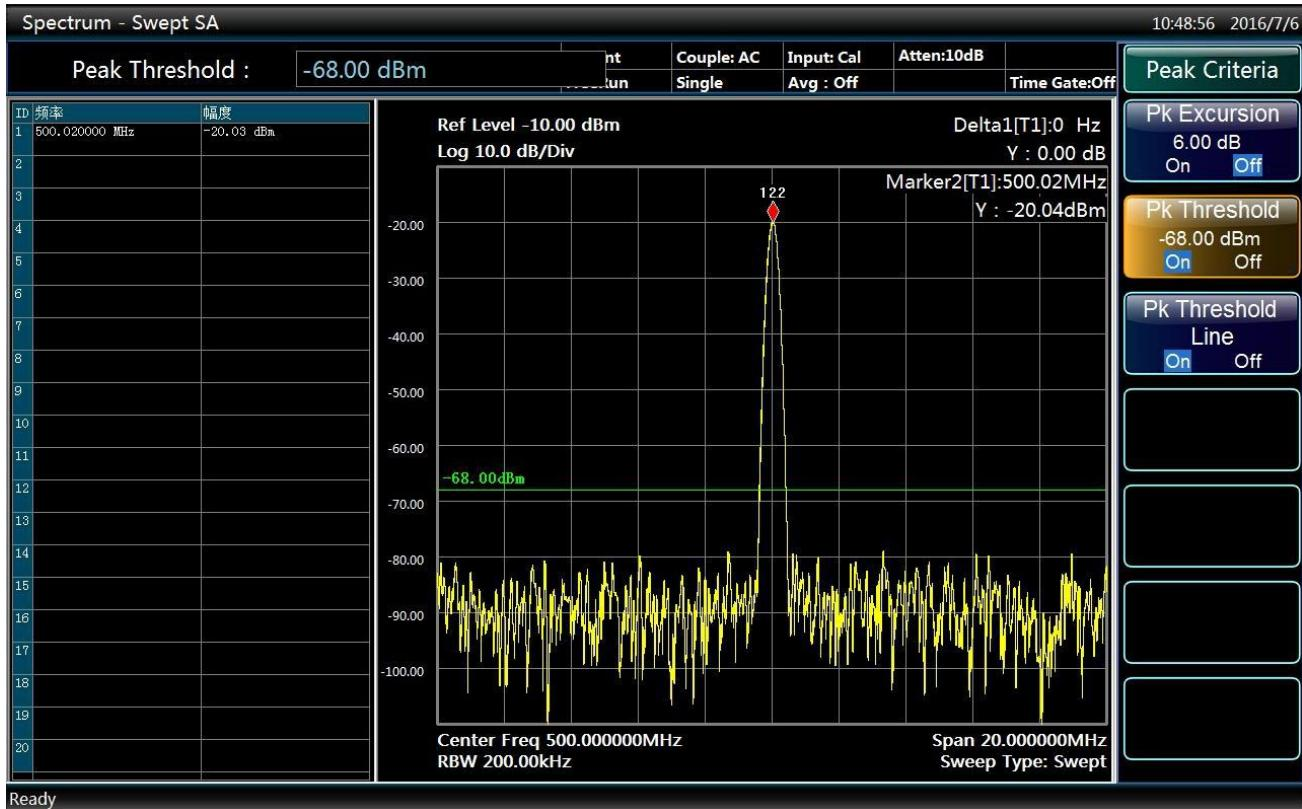

Fig. 3.22 The interface of opening peak threshold
- Press 【Peak Search】 to open the peak search soft menu; press [More 1/2], [Peak Criteria▶] and [Peak Threshold On/Off] to set the peak threshold as -68dBm as shown in Fig. 3.22.